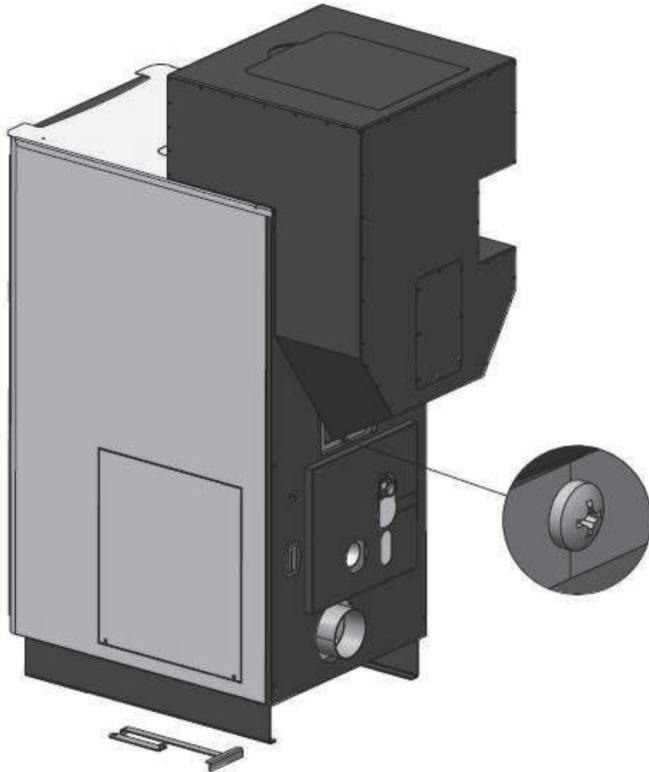

Fig 4.
- tighten the 4.2 x 13 screw to the position shown in Figure 4.